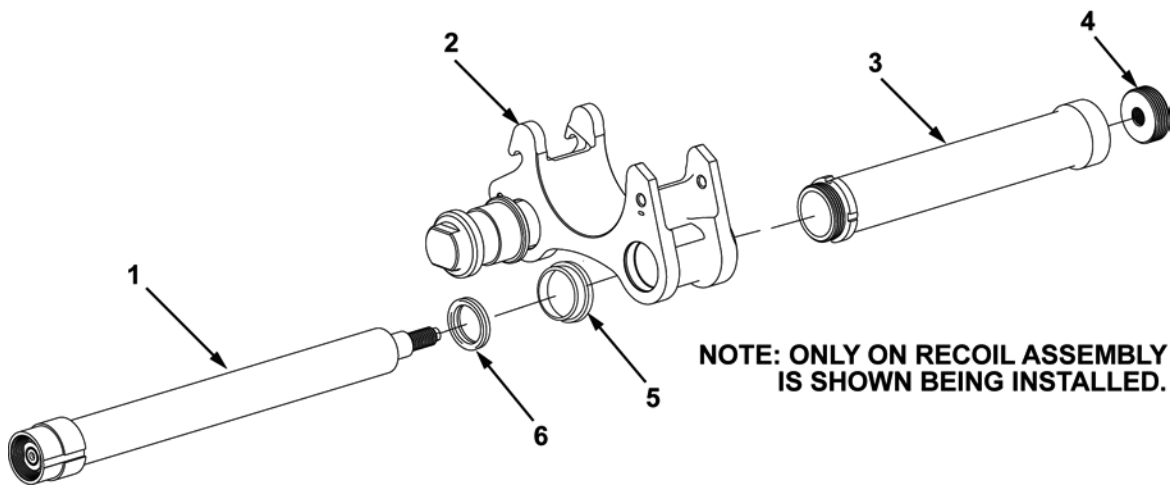

Figure 6. Assembly of Recoil Mechanism Buffer.
Ensure that flange of buffer wiper seal is turned opposite of lower clamp. Refer to Figure 6 for correct orientation.
9. Using seal inserter (WP 0026, Item 9) and seal inserter (WP 0025, Item 10), install new buffer wiper seal (Figure 6, Item 6) to lower clamp (Figure 6, Item 2).
10. Insert seal inserter (WP 0026, Item 10) onto end of recoil mechanism (Figure 6, Item 1).
11. Install recoil mechanism (Figure 6, Item 1) to lower clamp (Figure 6, Item 2).
12. Apply sealing compound to threads of recoil housing (Figure 6, Item 3).
13. Install recoil housing (Figure 6, Item 3) to lower clamp (Figure 6, Item 2). Using spanner wrench, torque to 13.0 -15.0 (19 N•m).
14. If removed, thread mounting plate (Figure 6, Item 4) onto end of recoil mechanism (Figure 6, Item 1). Using face wrench socket, continue installation of mounting plate into recoil housing (Figure 6, Item 3). Torque to 13.0 -15.0 ft•lb (19 N•m).